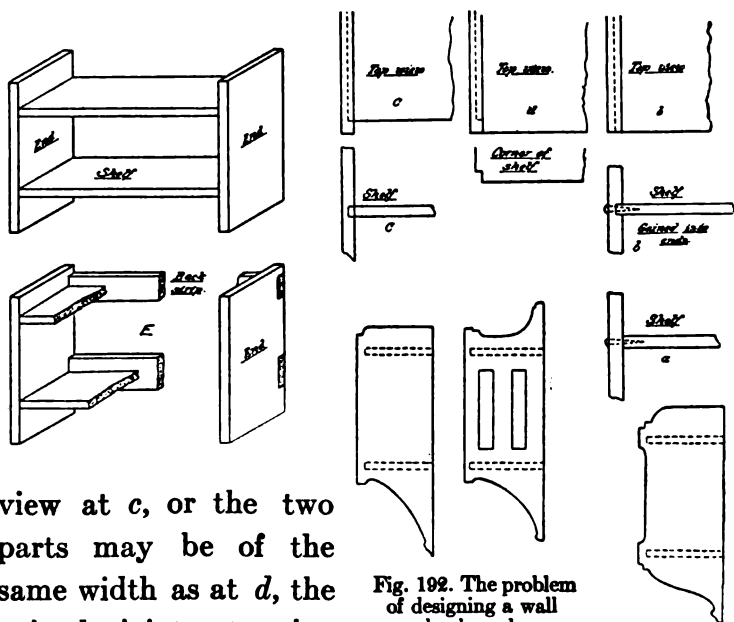

Fig. 192. The problem of designing a wall book rack
**I**N THE modern home, the orderly arrangement of books and magazines calls for ample shelf space and the book shelf becomes a favourite piece of furniture among amateur woodworkers. The book rack for the books of the day has been taken up in Chapter XXVII. The book shelf for hanging on the wall is blocked out in Fig. 192.